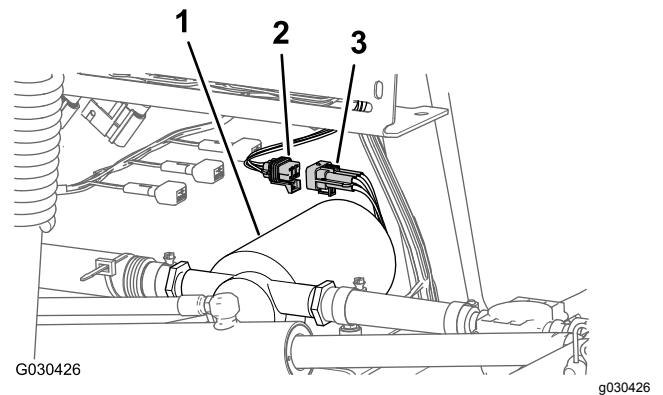

Figure 6
2. Disconnect the 6-pin connector of the rinse-pump harness from the 6-socket connector of the rear, main harness (Figure 6).